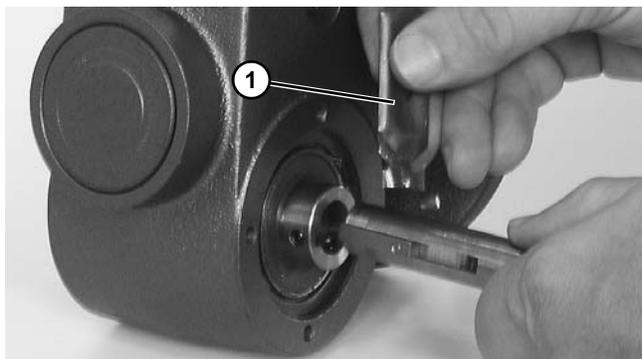

Figure 25
2. Apply anti-seize (**Figure 25, item 1**) to shaft.